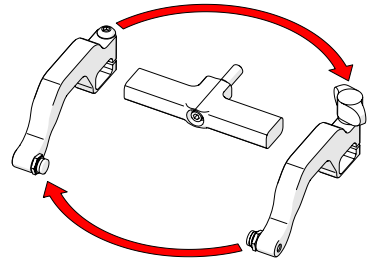

Fig. 122 - Reverse position around yoke
4. Position removed arms to opposite sides of the yoke (*Fig. 122*).